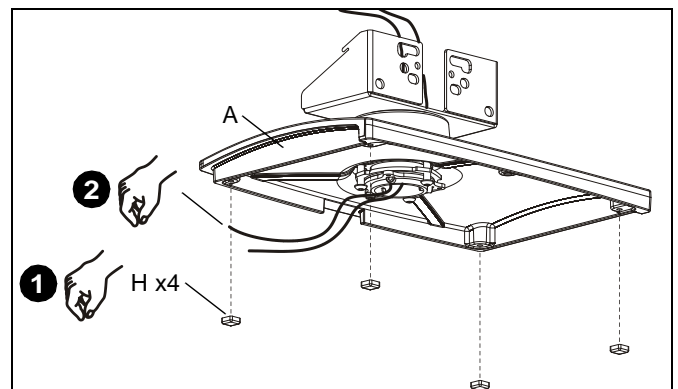

Figure 4
1. Peel adhesive backing from rubber bumpers (H) and affix to stand (A) (See Figure 4).
2. Route cables down through center pivot assembly and out through slot in rear of base (See Figure 4).